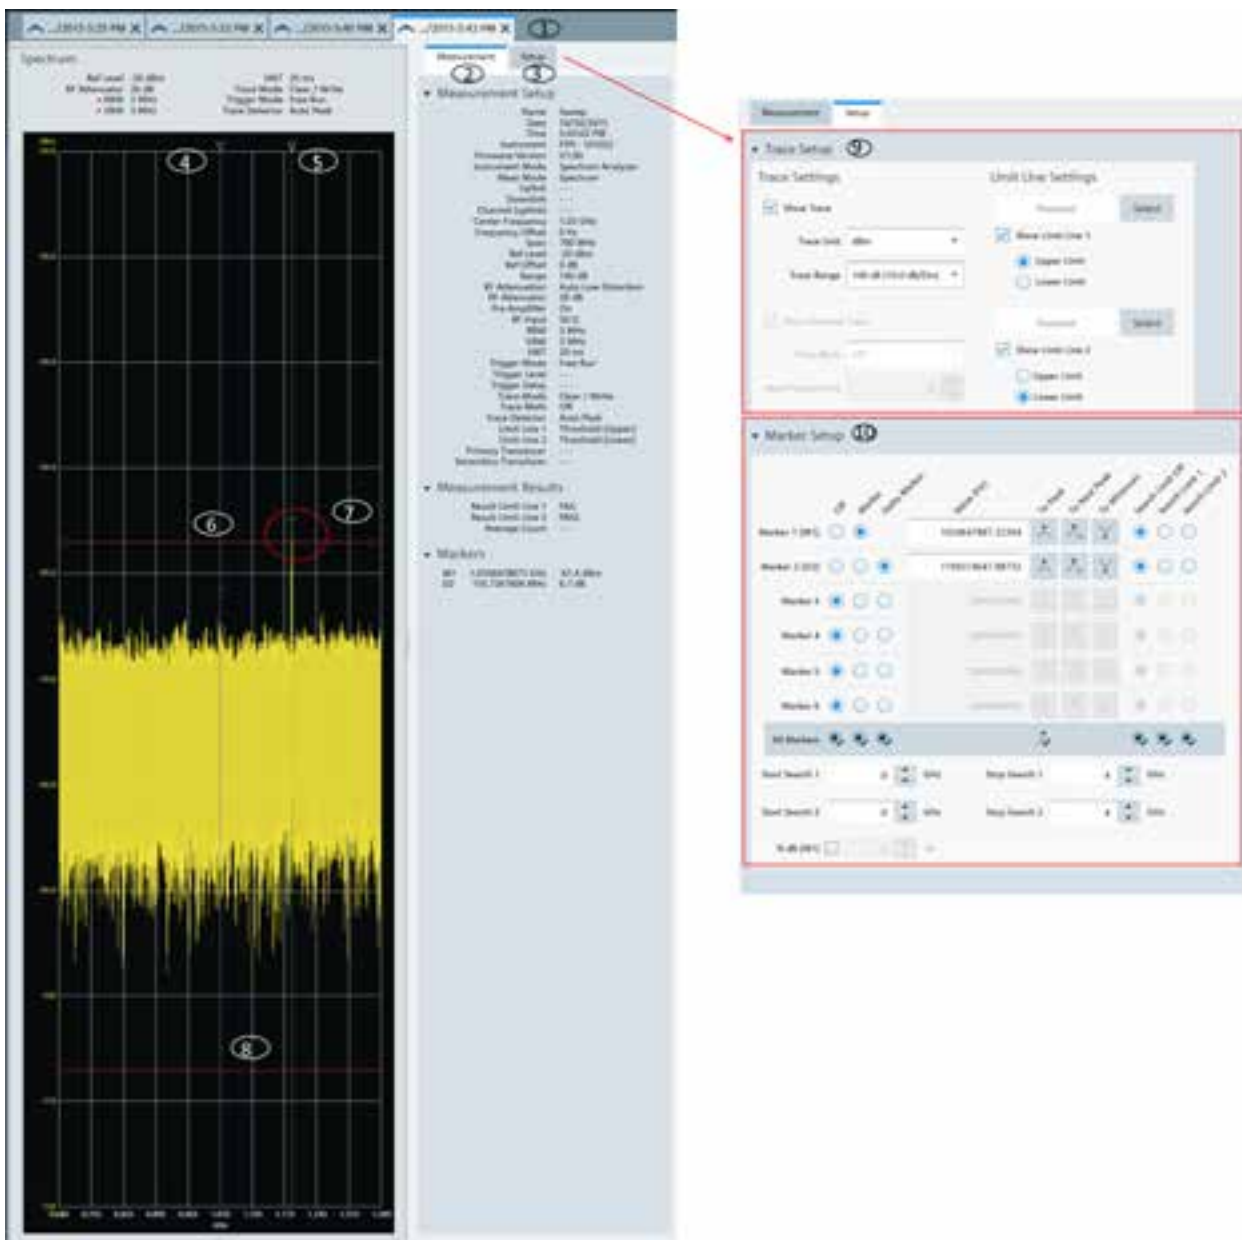

Figure 4-4: Trace measurement window
The "Get Trace" menu allows you to capture the current trace measurement from the instrument and display it in the trace window. A new tab is formed in the "Tab header bar" for every new trace captured from the instrument. See index 1 in Figure 4-4.
See index 6 and 7 in Figure 4-4.
See index 3 in Figure 4-4.
- The "Limit Line Settings" provides two sets of limit line that you can apply on the trace window. Each set of the limit line provides the selection to apply it as "Upper Limit" or "Lower Limit". The test result of the limit line is displayed in the "Measurement" tab. See index 2 in Figure 4-4.
See details of "Measurement" tab in index 2 of Figure 4-4.
See details of "Setup" tab in index 3 of Figure 4-4.
The "Open Trace" menu allows you to open the existing trace measurements from the PC and displayed it in the trace window. A new tab is formed in the "Tab header bar" for each trace opened from the PC. See index 1 in Figure 4-4.